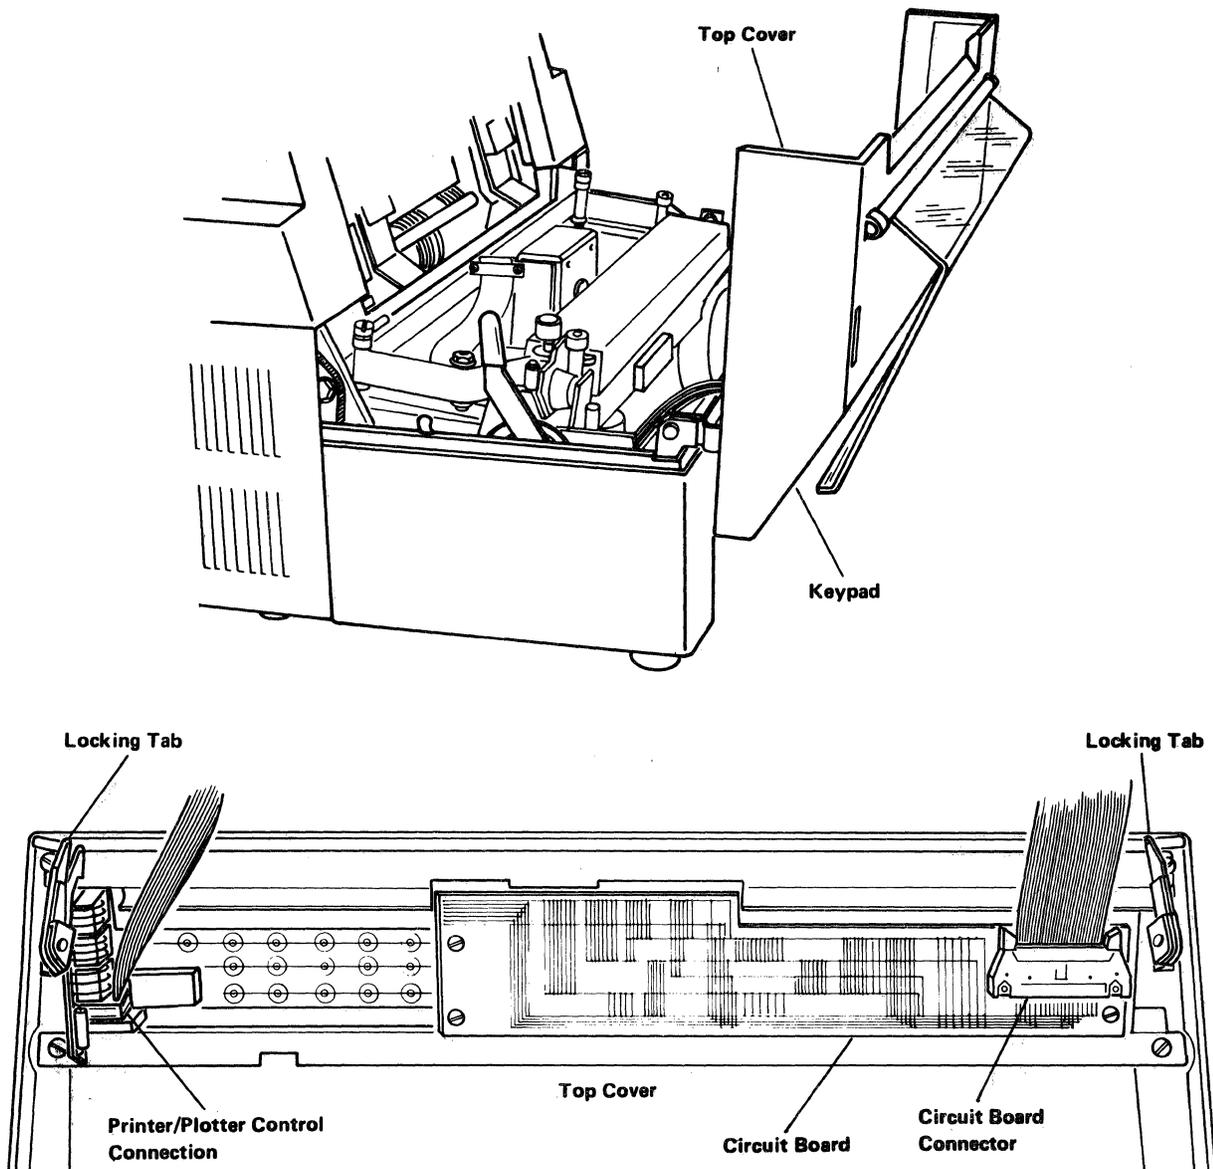

Figure 4-21. Keypad.
The keypad is located on the top front cover of the printer/plotter as shown in Figure 4-21. The keypad, top cover, and circuit board are a complete unit. Simply rotate the cover up and disconnect the circuit board connector (and printer/plotter connector if so equipped). Lift the cover straight up until it snaps out of its retaining clips and remove it. To replace the keypad, snap the new unit into position and reconnect the connectors.
4. Replace the keypad connector cable and connect it to the printed circuit board (See Figure 4-21).